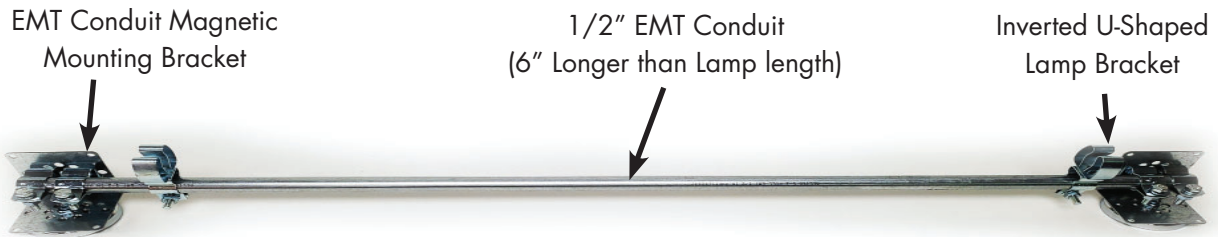

Figure 13: Single Lamp Support Rod Assembly for Single/Dual Lamp Models (Standard)
The Lamp Support Rod is supplied with magnetic foot mounts. The lamp support rod are available in several variations: (Reference Figures 13 through 20)
3. Lamp Support Kits Only – may contain mounting L-brackets, lamp support brackets and magnetic disks with assembly hardware all shipped loose. Refer to optional lamp and 1/2" EMT conduit mounting accessories sections for additional information. The installer is responsible to supply the 1/2" EMT conduit, assemble and attach the mounting brackets and lamp support brackets to the EMT conduit (reference Figures 13, 14, 15, 16, 17, 18, 19 and 20) during installation.